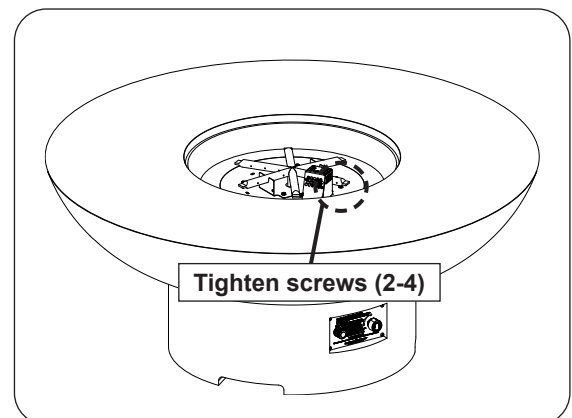

Fig. 41-3 Secure burner
2. Use a 5/16" nut driver to fasten the burner to the base (see Fig. 41-3).